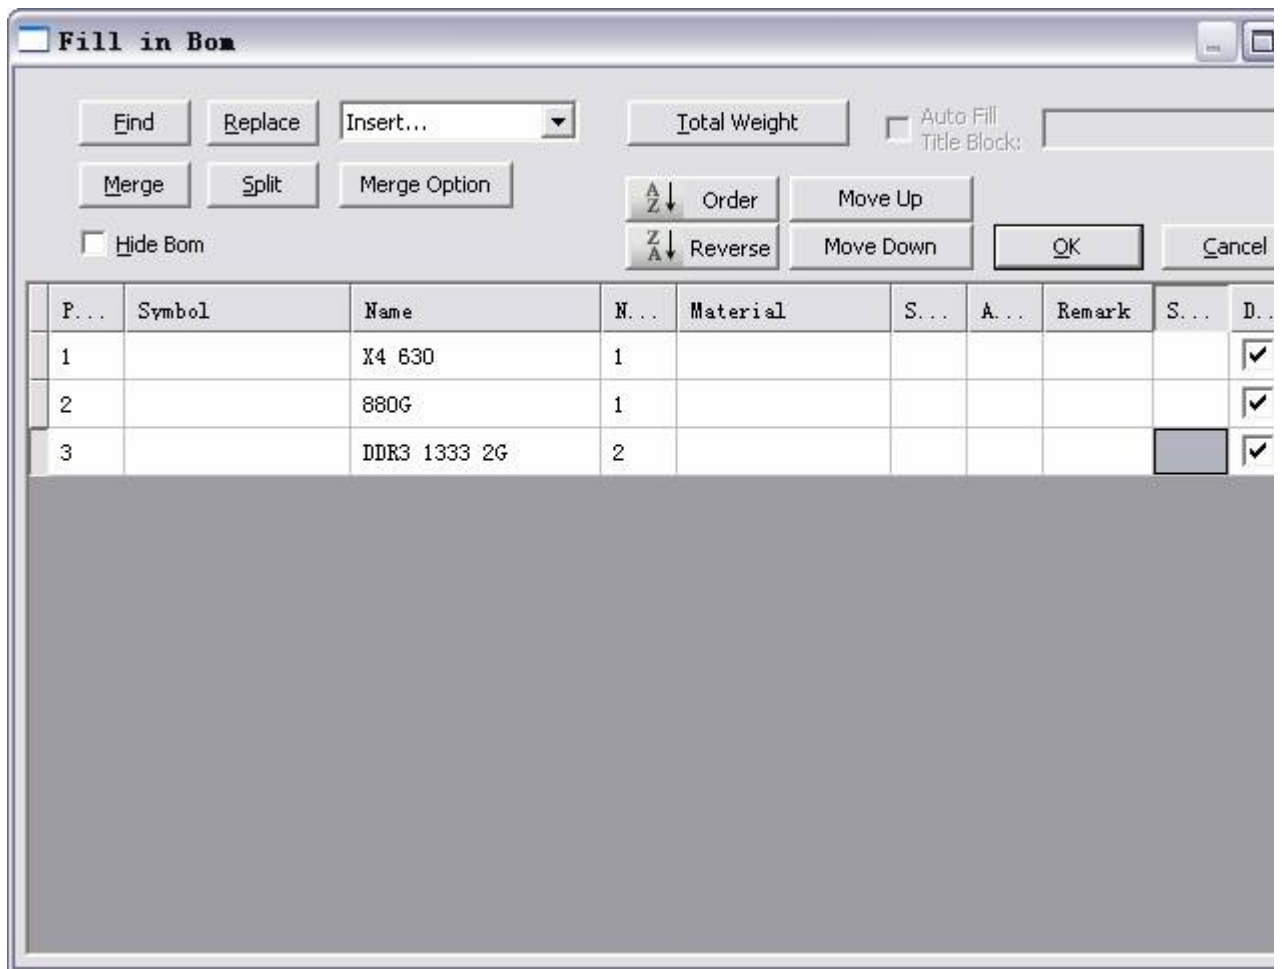

Figure 5-21 Edit Table
- (1)  Find/replace : Click the "Find and Replace" button to find and replace information in current table.
- (2)  Insert : Click the "Insert" button to insert each kind of text and symbol quickly.
- (3)  Calculate total weight : Click the option "Calculate total weight" and the dialog box shown in Figure 5-21 will popup.